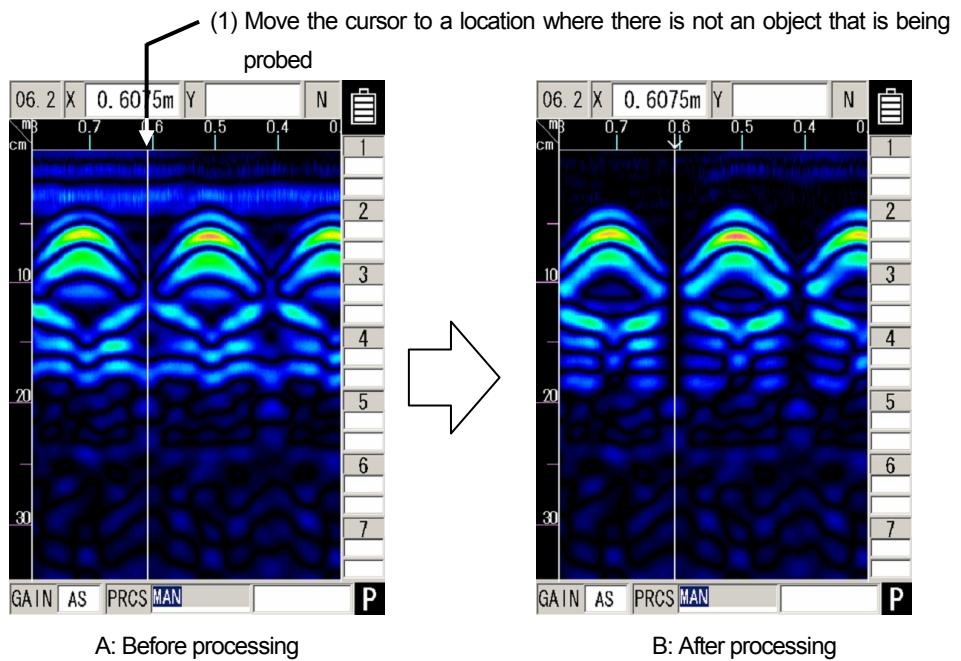

Figure 3-17 Display before/after Manual Surface Wave Processing
Manual surface wave processing is used when the effect of reflection near the concrete surface on the scan result can not be completely removed. (See Figure 3-17 A.)
- (2) Set **[MAN]** (Manual) using the cursor keys **▲▼**.
- (3) Use the cursor keys **◀▶** to move the cursor to a location where there is not a object to be probed in the scan results. (See Figure 3-17 A)
- (4) Press the **[5] ENTER** key. Manual surface wave processing will be performed while the reflected wave at the cursor position is used as the surface wave. At this time, the marker **↓** is displayed at the previous cursor position. (See Figure 3-17 B.)
- (5) To end the image processing mode, press the **[6] PRCS** key again.